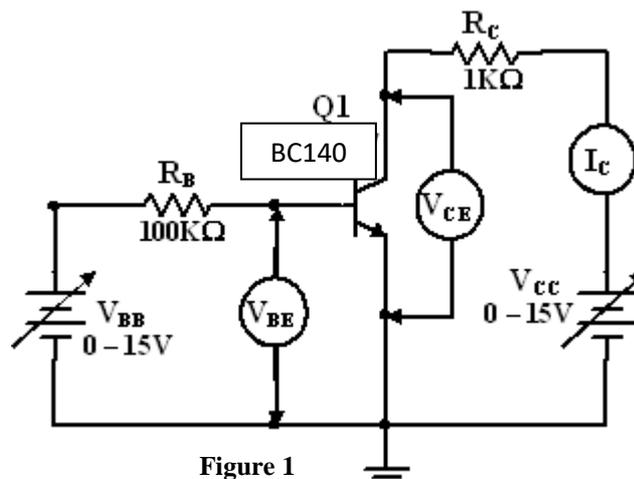

Figure 1
- 1- Construct the circuit shown in Figure 1. By using the **BC140 BJT**. (Make sure the transistor is connected with the correct polarity).